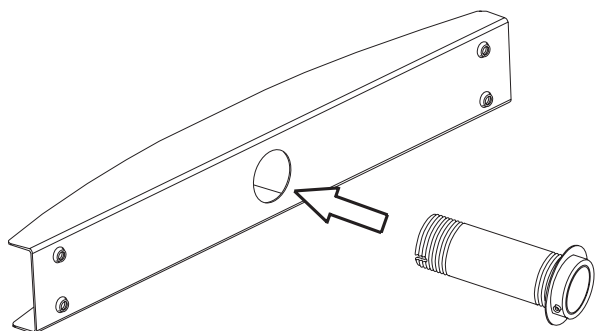

Figure 1
Insert the pipe through the bottom of the swivel arm support (see Figure 1) and out the top. Attach the swivel arm support onto the back plate assembly on the wall by placing a fiber washer (JJ) onto the pipe and passing the pipe through the tube (see Figure 2). Hand tighten on the collar mount until it aligns with a slot in the pipe threads. The swivel arm support should have a snug to loose fit. Install and tighten the collar set screw (HH).